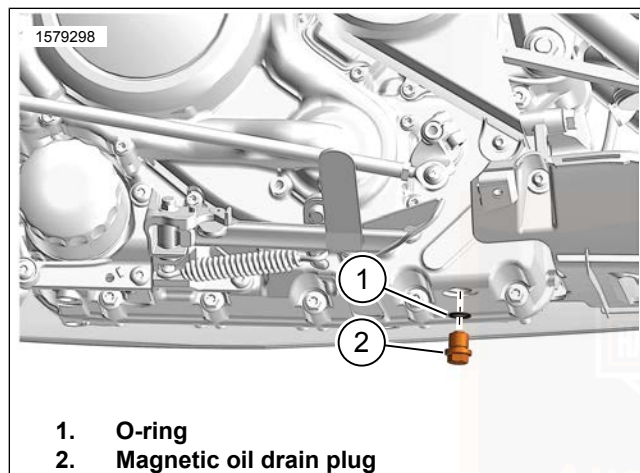
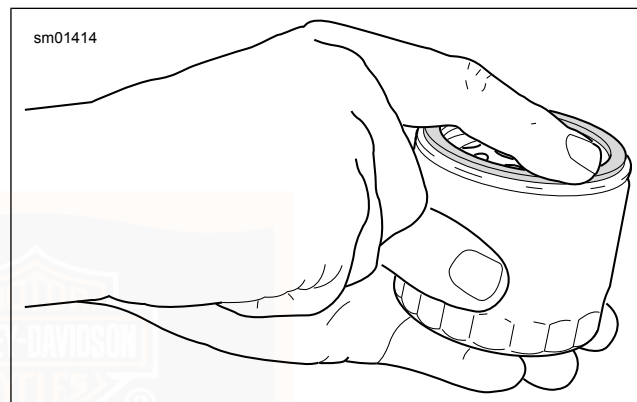

Figure 57. Oil Drain Plug (Typical)
Figure 58. Lubricating New Oil Filter Gasket
5. See Figure 57. Remove magnetic oil drain plug (2). Allow oil to drain completely.
- a. Remove and discard O-ring (1).
9. See Figure 58. Install **new** oil filter.
10. See Figure 57. Install **new** O-ring (1).
11. Install magnetic oil drain plug (2). Tighten.